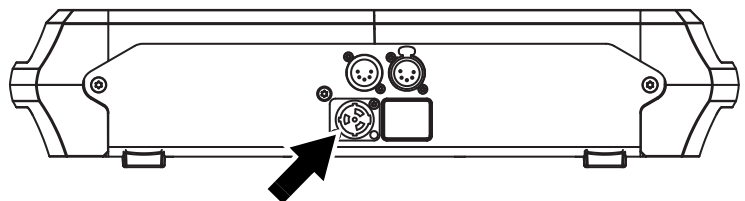

Figure 8: Mains input socket
2. See Figure 8. insert the TRUE1 power connector into the Mains Input socket (arrowed) and twist clockwise to engage.
The MAC Encore Wash has 5-pin locking XLR sockets for DMX and RDM input and output (see Figure 8 on page 11). The default pin-out on both sockets is: